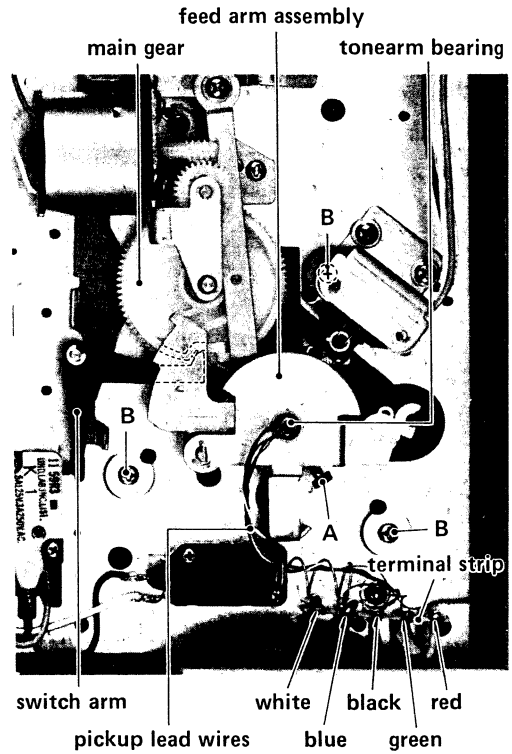

Fig. 3-6
7. If necessary, the pickup base assembly can be removed by unscrewing the three screws marked "B" in Fig. 3-6.
6. Make sure that the tip of the switch arm is positioned so that it fits within the indentation of the main gear as illustrated in Fig. 3-6.